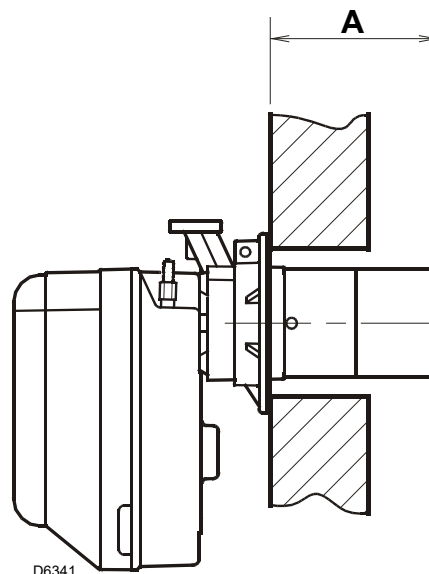

Fig. 9
The burner can be fixed with the variable position (A) as shown in Fig. 9.